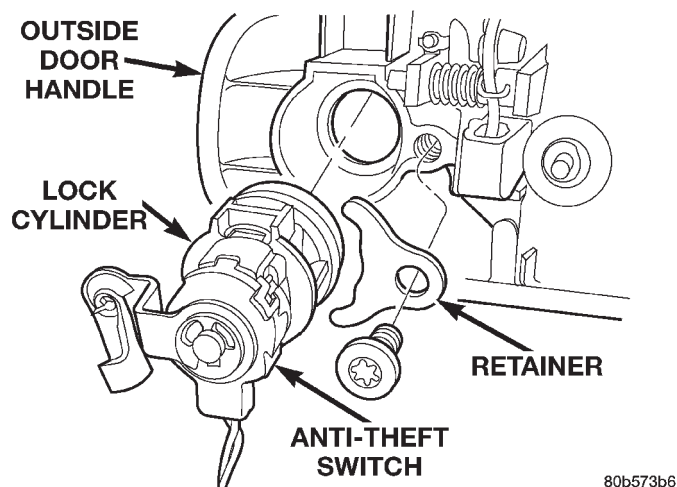

Fig. 21 Front Door Lock Cylinder
- (1) Remove door trim panel and insulator.
- (2) Remove outside door handle.
- (3) Remove screw securing lock cylinder retainer to outside door handle (Fig. 21).
- (4) Separate lock cylinder from door handle.
- (5) Disconnect lock cylinder switch, if equipped.